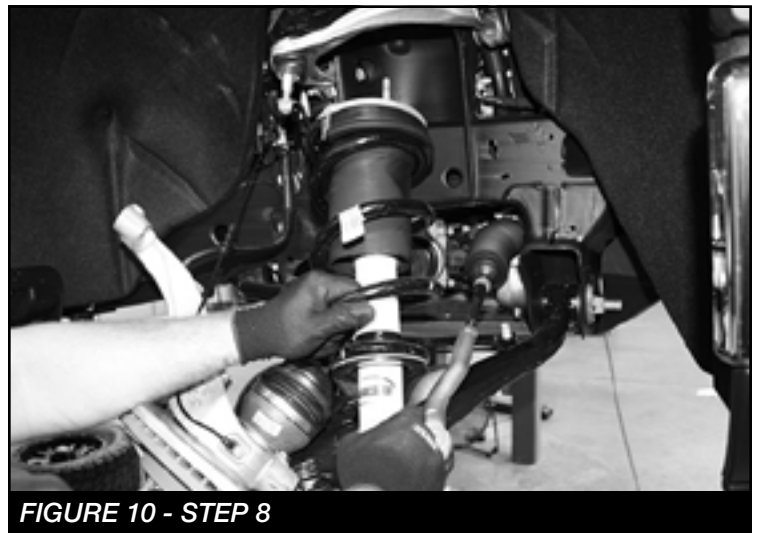

**FIGURE 8 - STEP 7**
7. Locate the plastic wire harness channel on the top of the passenger side coilover mount. Push it up and back to allow access to the three coilover nuts. Remove and discard the upper coilover nuts. **SEE FIGURE 8**